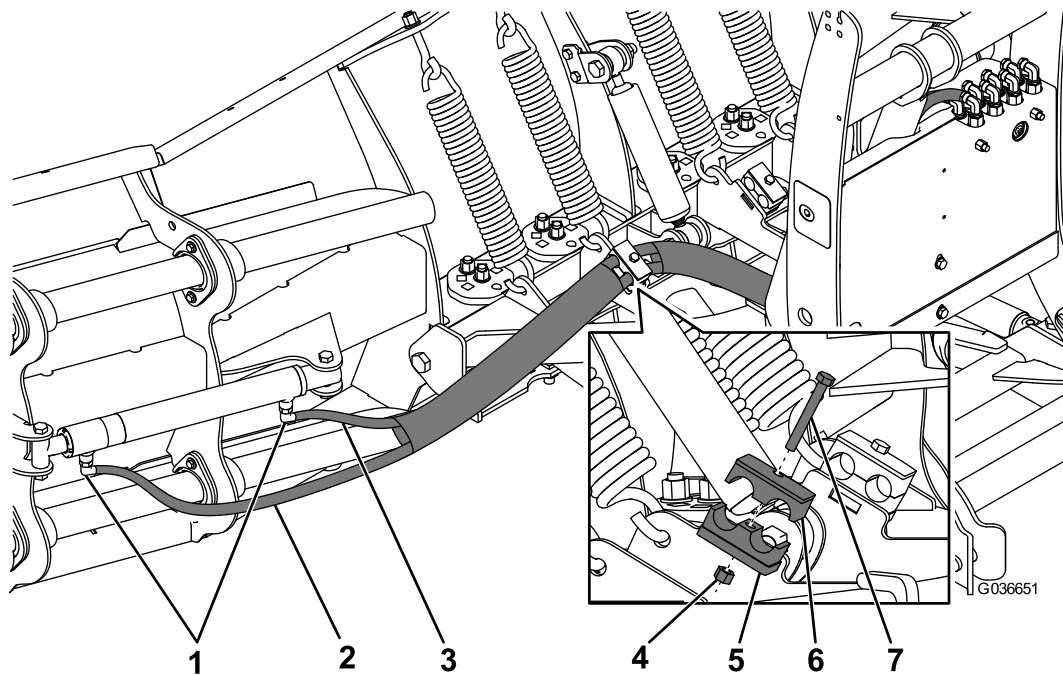

Figure 10
2. Slide the 2 hoses through 2 pieces of hose wrap as shown in Figure 10.
3. Secure the hoses to the left hose-clamp using a bolt (5/16 x 2-1/2 inches) and nut between the 2 sections of hose wrap (Figure 10).
4. Using thread compound, install 90° fittings to the left wing extension cylinder (Figure 10).
5. Connect the 1.5 m (59-1/2 inch) hose to the inner fitting on the left wing-cylinder (Figure 10). Turn the fitting until it is finger tight, then turn it another 1/4 to 1/2 turn.
6. Connect the 1.8 m (73-1/2 inch) hose to the outer fitting on the left wing-cylinder (Figure 10). Turn the fitting until it is finger tight, then turn it another 1/4 to 1/2 turn.
- Using thread compound, connect the other end of the hose to the left push-frame cylinder (Figure 10), and turn the fitting until it is finger tight, then turn it another 1-1/2 to 3 turns.